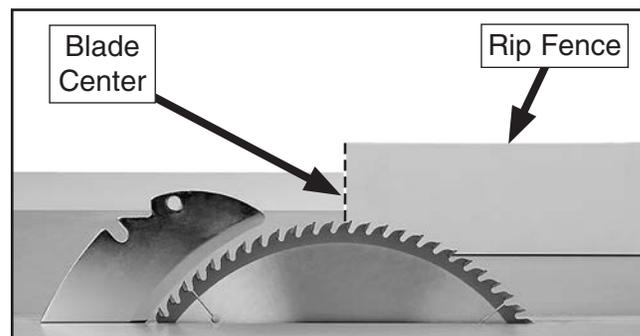

Figure 101. Example of rip fence set even with center of main saw blade.
4. Loosen the rip fence clamp handle, position the leading edge of the fence so it is either across the full width of the table or (optionally) even with the center of the main saw blade, as shown in **Figure 101**, then re-tighten the clamp handle.